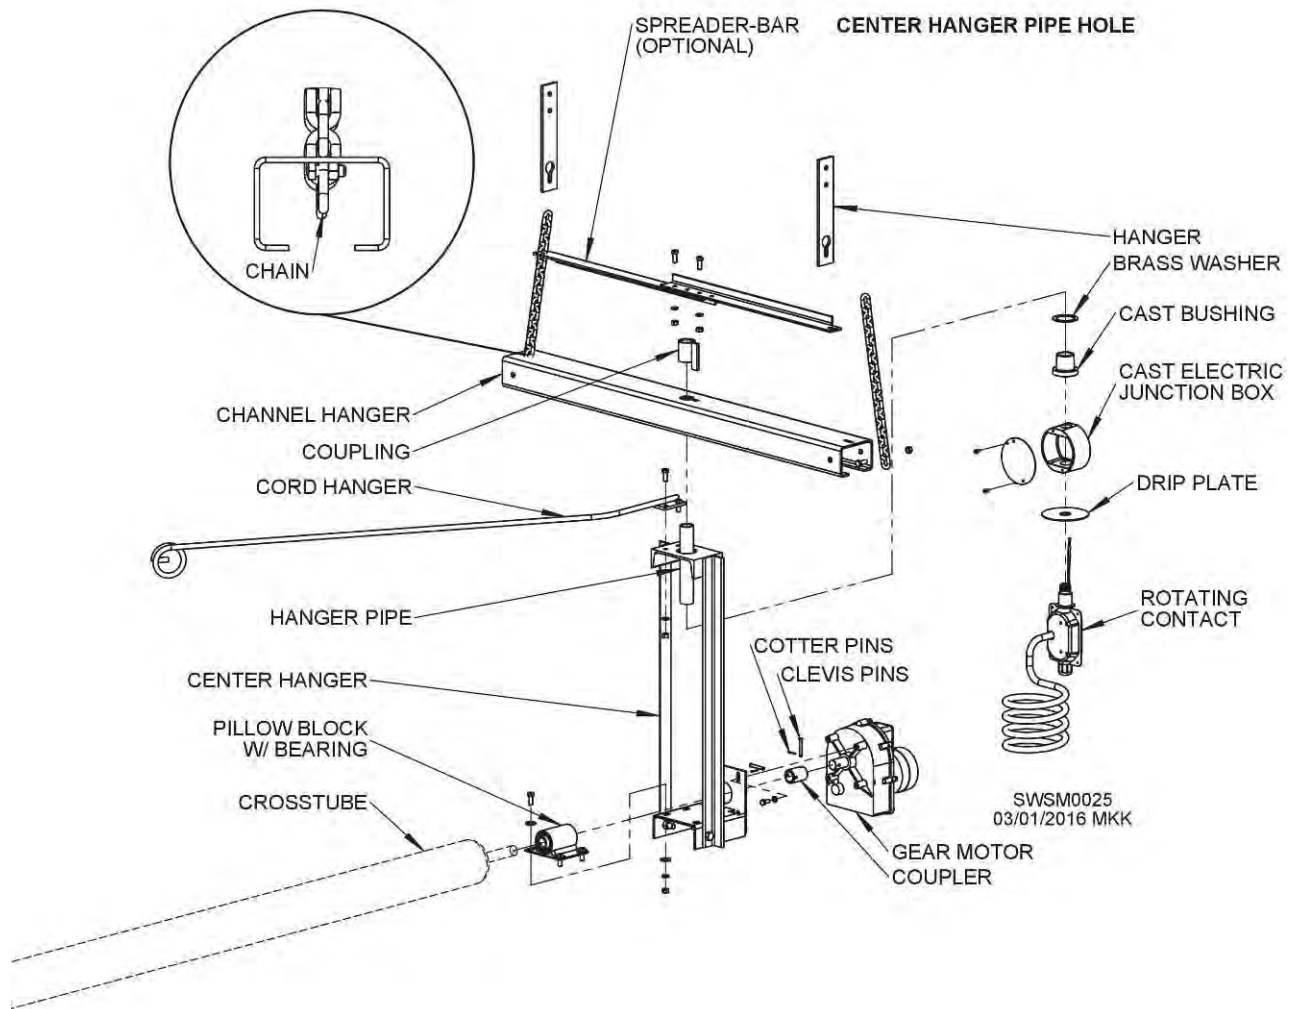
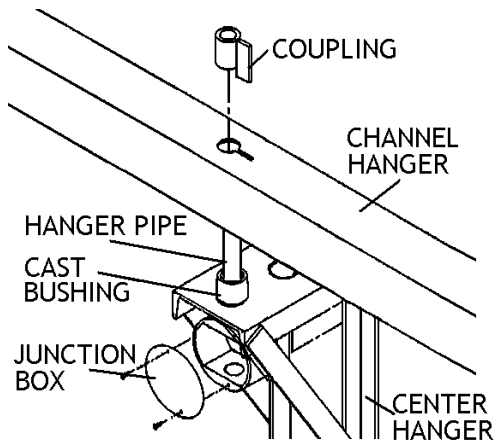
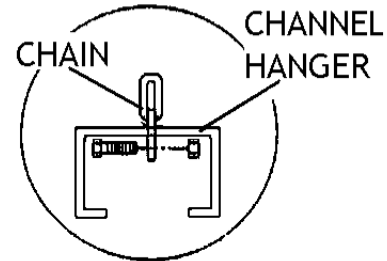

Figure 20 - Center Hanger Assembly
Figure 21 - Placement of Cast Electric Junction Box on Center Hanger
Figure 22 - Chain Placement in Channel Hanger
nuts. Do not tighten until gear motor alignment is correct (step 39). **Figure 20.**
- 35 Remove cotter and clevis pins from holes on 1" tube coupler attached to gearmotor shaft. Save pins. **Figure 20.**
- 36 Slide 1" tube coupler onto crosstube shaft and insert 1/4" x 1-3/4" clevis pin and 1/16" x 3/4" cotter pin from step 35 into holes to connect crosstube shaft and gearmotor. **Figure 20.**
- 37 Insert 5/16" x 3/4" bolts and 5/16" lockwashers from step 34 through holes in center hanger and screw into holes on gearmotor. Check vertical alignment. Tighten using 1/2" wrench. **Figure 20.**
- 39 Tighten 4 set screws in pillow block bearing (2 on each end) using 1/8" hex (Allen) wrench. Tighten bolts (step 33) using 9/16" wrench. Tighten set screws on pillowblock. **Figure 20.**
- 40.1 *Note: Ensure threads are fully engaged, as they will hold weight of Fastir.* **Figure 20.**
- 41 Slide cast bushing and brass washer onto hanger pipe so they rest on junction box. **Figure 20.**
- 42 Slide end of hanger pipe up through bottom of hole in center hanger so junction box is inside center hanger. **Figure 20, Figure 21.**
- 43 Slide channel hanger over hanger pipe. **Figure 20, Figure 21.**
- 44 Screw coupling onto hanger pipe ensuring tab on coupling fits in slot on channel hanger. **Figure 20, Figure 21.**
- 45 Thread a liquid-tight elbow (not provided) into top of coupling. Ensure threads are seated properly and tighten well. **Figure 20.**
- 46 Bolt chains onto each end of channel hanger using 3/8" x 1" bolt and 3/8" nut. Tighten using 9/16" wrench. **Figure 20, Figure 22.**